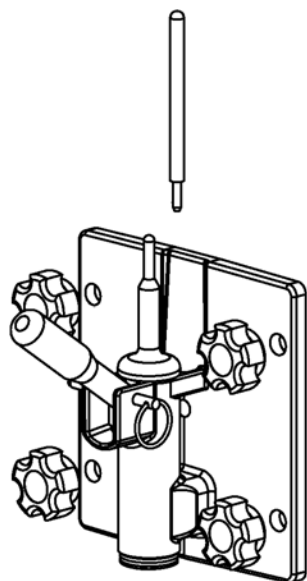

Figure 3-4 Torque Rod
- E. Remove torque rod from stator assembly (Refer to Figure 3-4).